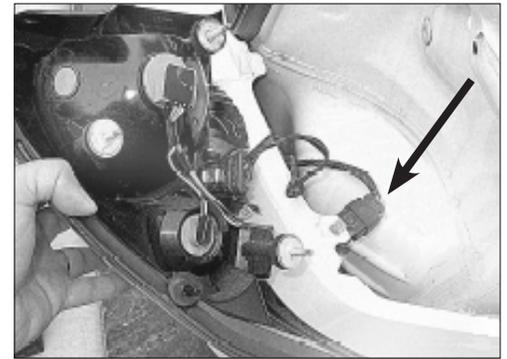

Fig. 2
4. Locate the vehicle wiring harness connectors on the back of the tail light assembly (Fig. 2) that are similar to those on the T-Connector harness. Separate the vehicle connectors from the tail light by pressing on the release tab and pulling the connector away from the tail light housing. Take care not to damage the locking tabs. The connectors should be clean and free of dirt or debris. Clean the connectors if necessary.